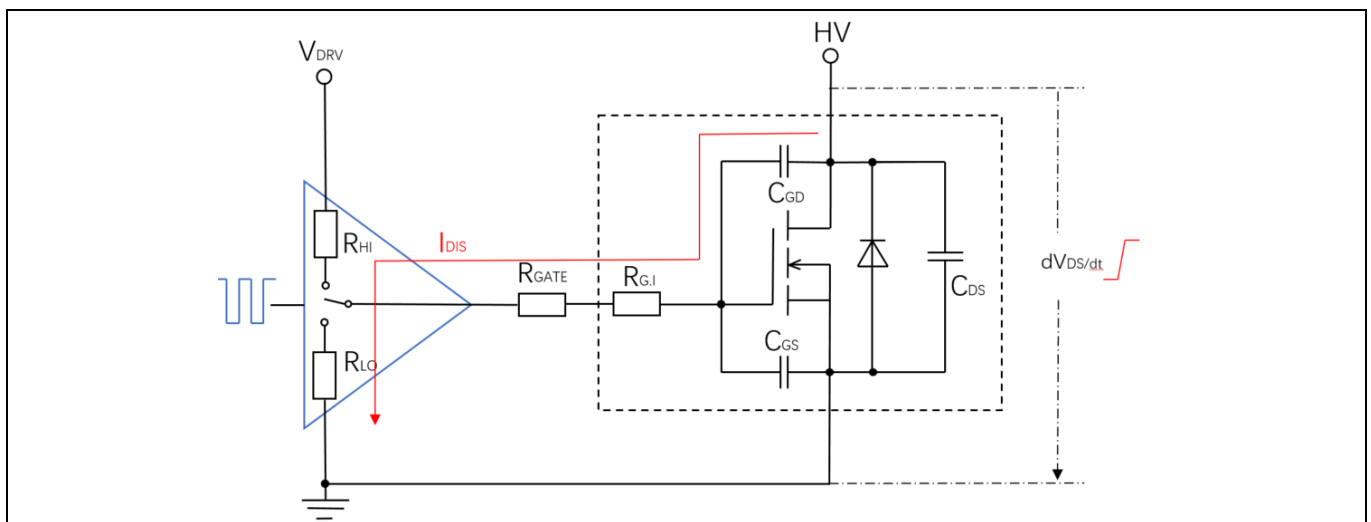

Figure 4 Parasitic turn on
As sketched in Figure 4, high  $dV_{DS}/dt$  across the MOSFET will generate a displacement current  $I_{DIS}$  through the Miller capacitor  $C_{GD}$ , and this displacement current will generate a voltage drop across the gate resistor raising up the gate voltage. This can be calculated according to equations (1) and (2) below.